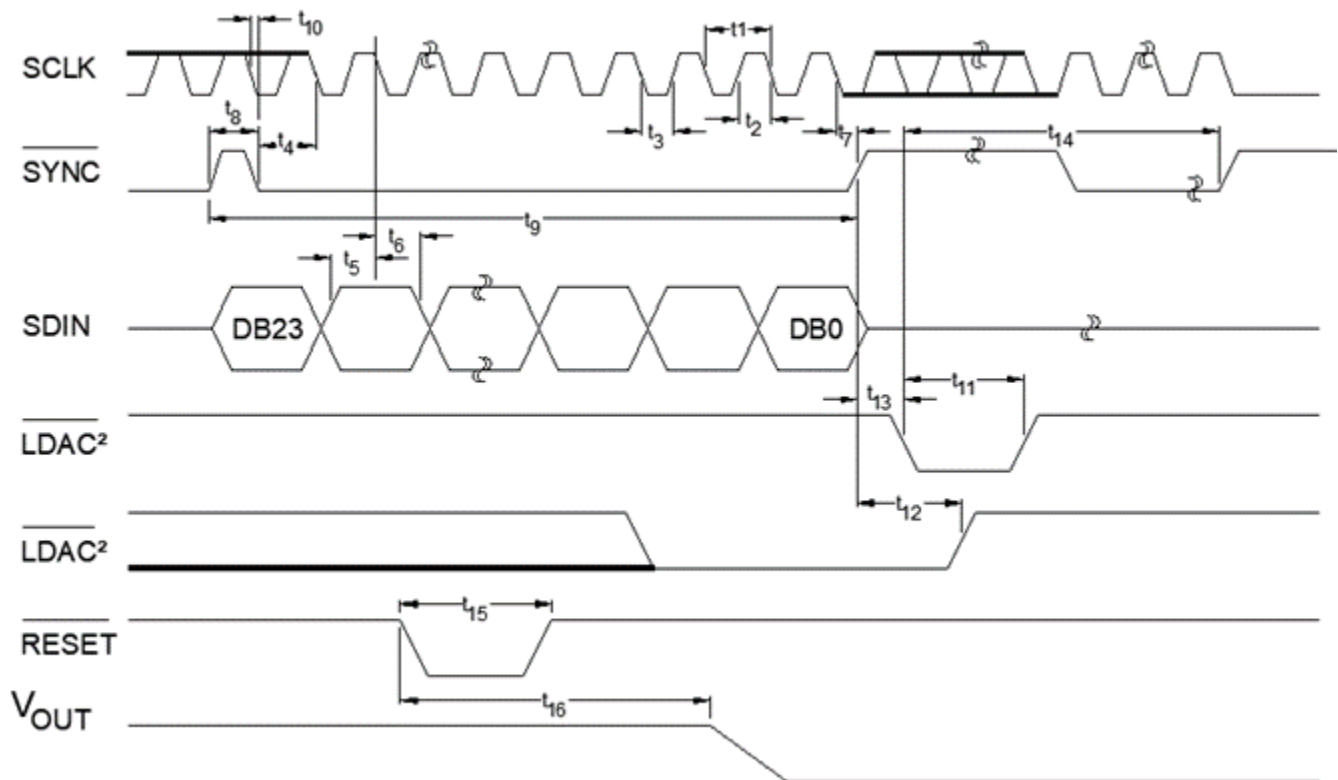

FIGURE 5. Serial Write Operation.
- 17/ All input signals are specified with tR = tF = 1 ns/V (10% to 90% of VDD) and timed from a voltage level of (VIL + VIH)/2. See Figure 5. VDD = 2.7 V to 5.5 V, 1.62 V ≤ VLOGIC ≤ 5.5 V; VREF = 2.5 V. All specifications TMIN to TMAX, unless otherwise noted.